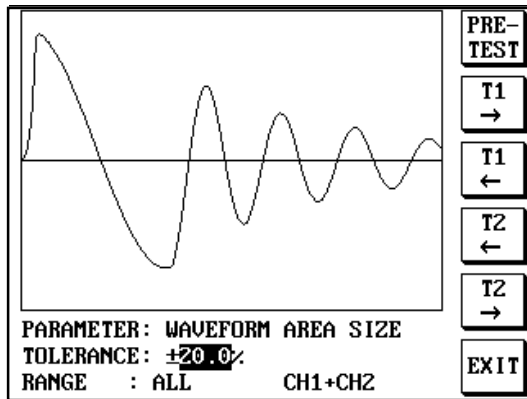

Figure 4.3.13 Area size
- **Pre-Test:** Sets the test range. (Please refer the figure 4.3.13~4.3.21)